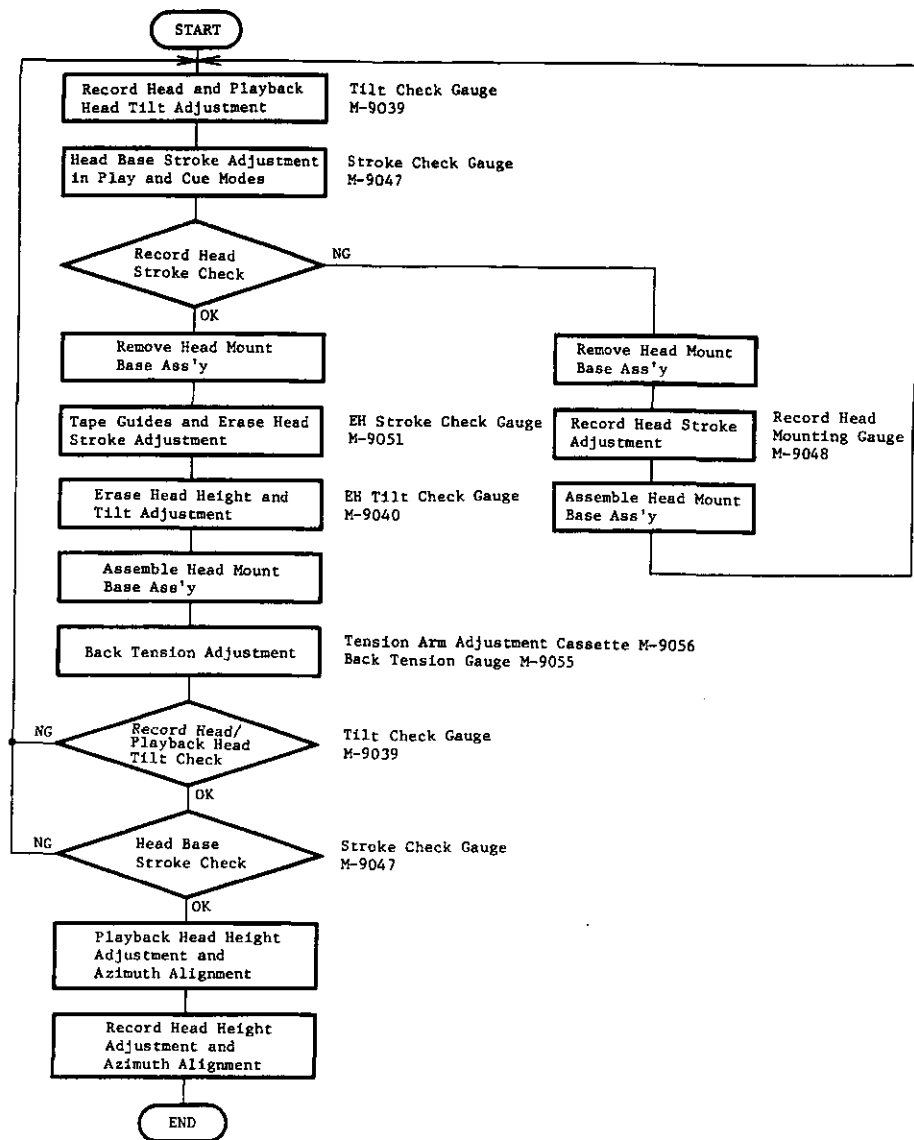

Fig. 4.4
- (1) Connect a DC voltmeter across the Reel Motor terminals.
- (2) Without loading a cassette tape, set the N-700ZXE in Play mode.
- (3) Adjust VR502 on the Logic P.C.B. Ass'y to obtain 4 V on the DC voltmeter.
Note: On items 4.3 – 4.9, refer to Fig. 4.4 flow chart.